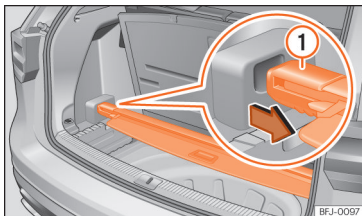

Fig. 121 Below the luggage compartment floor: store the rear shelf.
- Place the rear shelf in the corresponding housing »» **Fig. 121**.